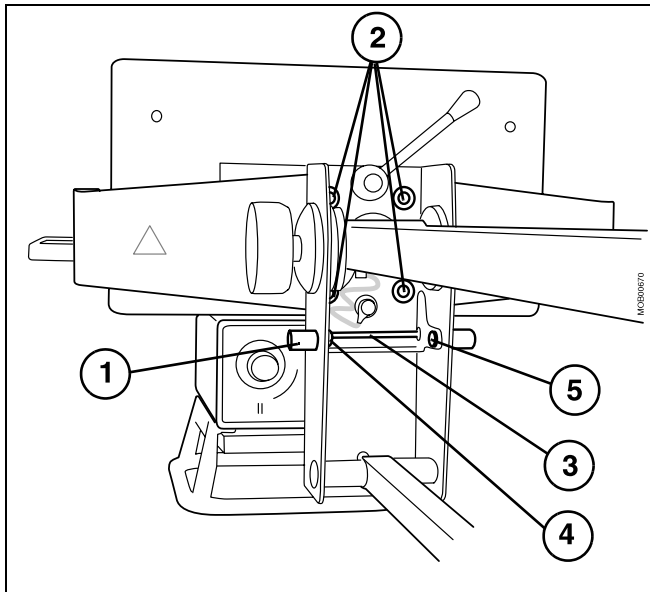

Fig. 5:
- Move the support arm to the horizontal position after loosening the locking device (1//Fig. 5 / p. 29).
- Tighten the 4 Allen screws (2//Fig. 5 / p. 29) securely.
- Check the shaft (3//Fig. 5 / p. 29) for play and the retaining rings (4//Fig. 5 / p. 29) for firm seating.
- Check the nuts of the two gripping bolts (5//Fig. 5 / p. 29) and tighten, if necessary.